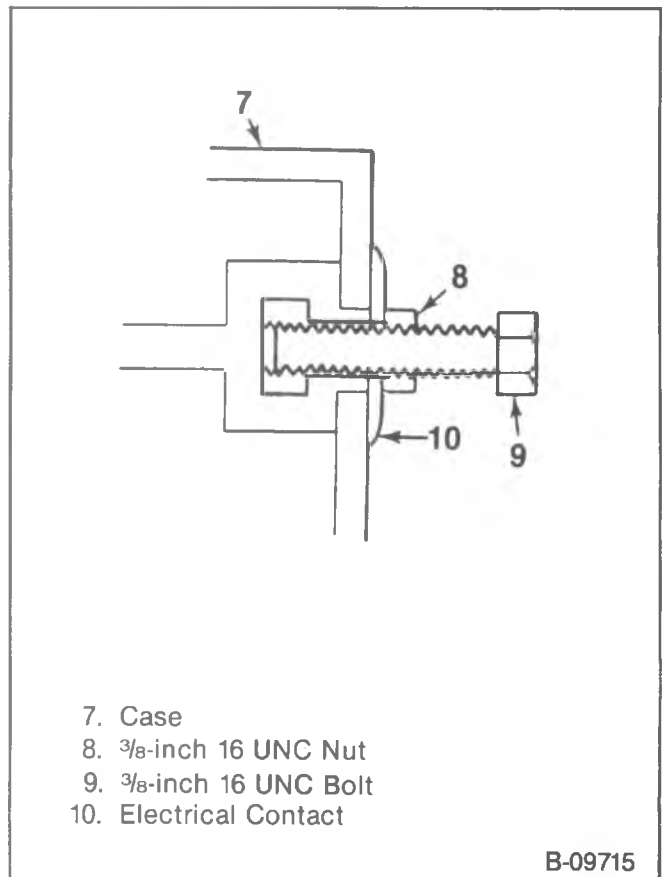

Figure 4—Testing and Charging Using Bolt and Nut
3. If adapters are not available, use a $\frac{3}{8}$ -inch 16 UNC bolt and stainless steel nut (figure 4). Finger tighten. Contact must be made through the lead pads at the face of the terminals, not through the threads of the bolt.